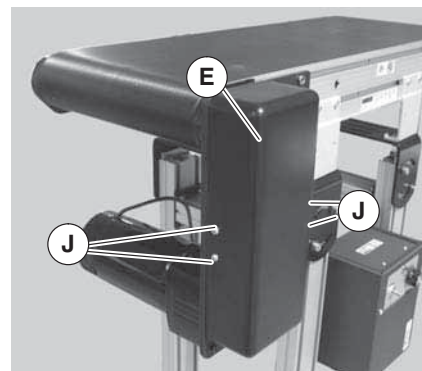

Figure 9
8. Install cover (Figure 9, item E) with four (4) screws (J). Tighten screws to 35 in-lb (4 Nm).
1. Remove four (4) screws (Figure 9, item J) and remove cover (E).
4. Install cover (Figure 9, item E) with four (4) screws (J). Tighten screws to 35 in-lb (4 Nm).
6. Install cover (Figure 9, item E) with four (4) screws (J). Tighten screws to 35 in-lb (4 Nm).